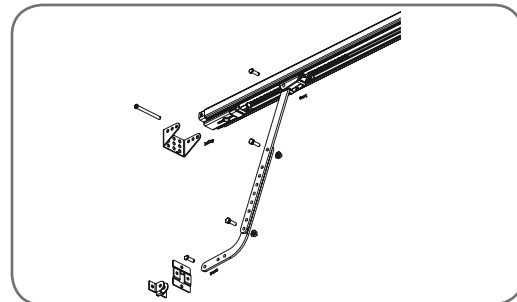

fig 18
- Attach the C-Rail assembly to the wall bracket with the 90mm long clevis pin and secure with the supplied snap pin (**Fig. 18**)